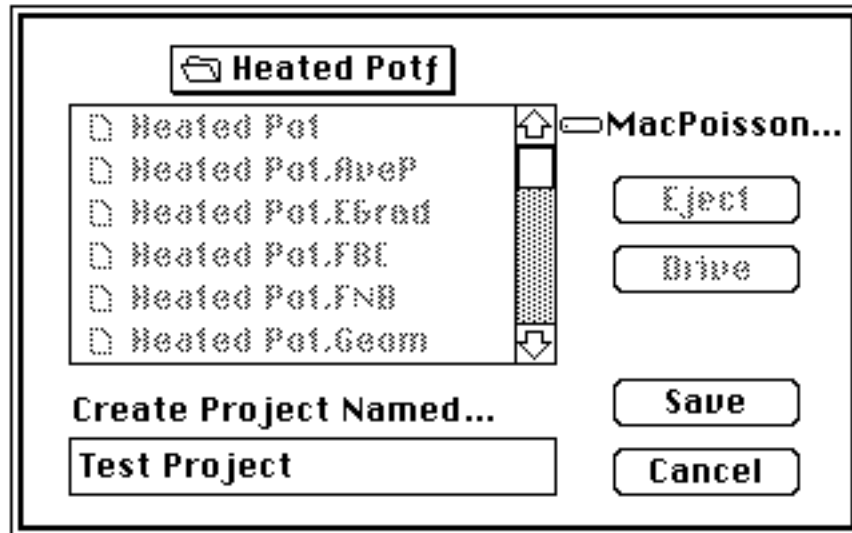

Fig 3.104 Name project
- Enter a project name (Fig 3.104) and click save.